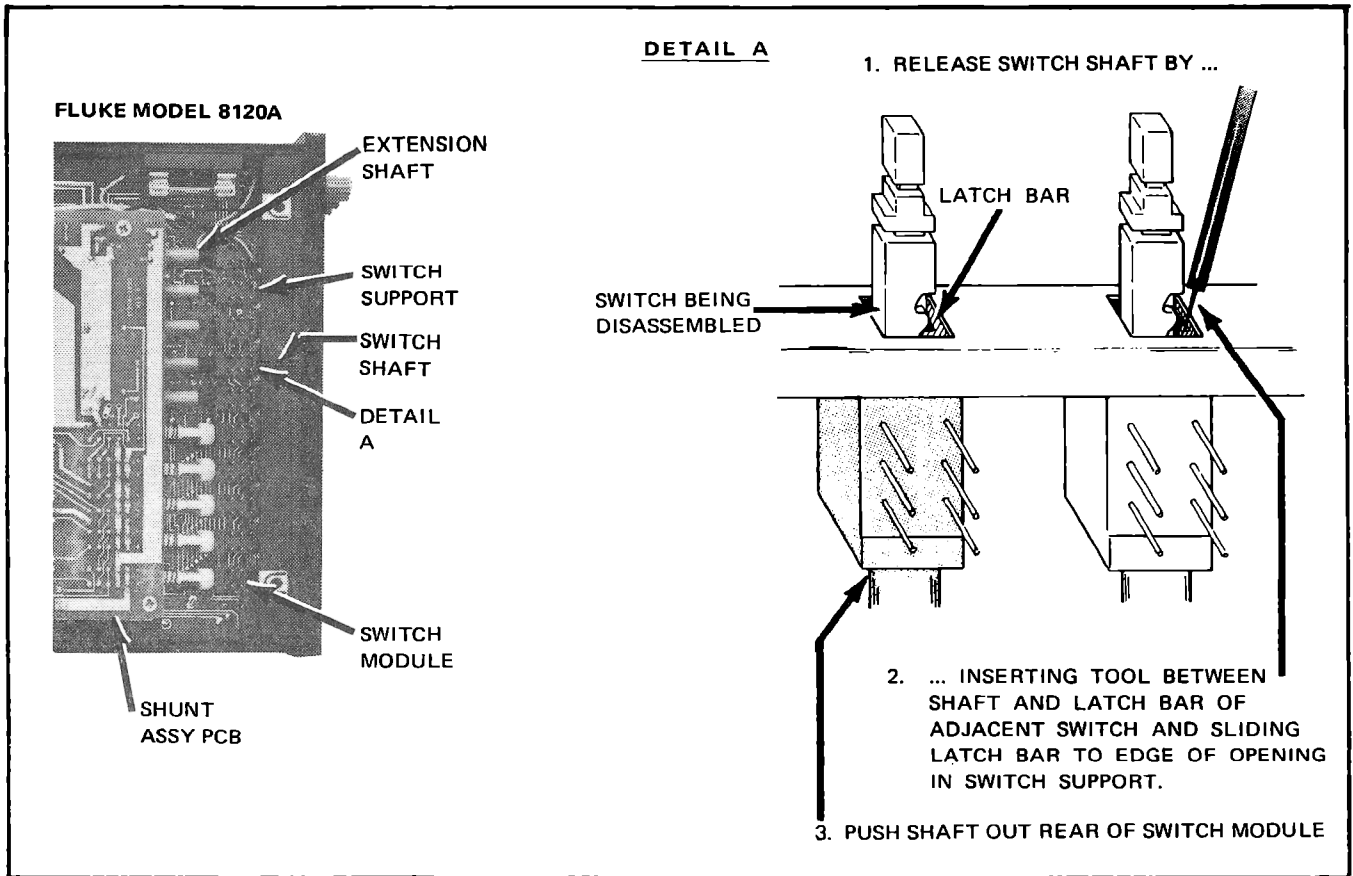

Figure 4-3. DISASSEMBLY OF FRONT SWITCH MODULES
- 4-21. DISASSEMBLY OF FRONT SWITCHES AND SHUNT ASSEMBLY SWITCHES (Figure 4-3).**
- d. Remove the switch shaft by sliding the latch bar to the side and pushing the shaft slowly out the back of the switch module (see Detail A, Figure 4-3). Use a pointed tool to move the latch bar. The latch bar is conveniently actuated from the shaft opening at an adjacent switch, in which case